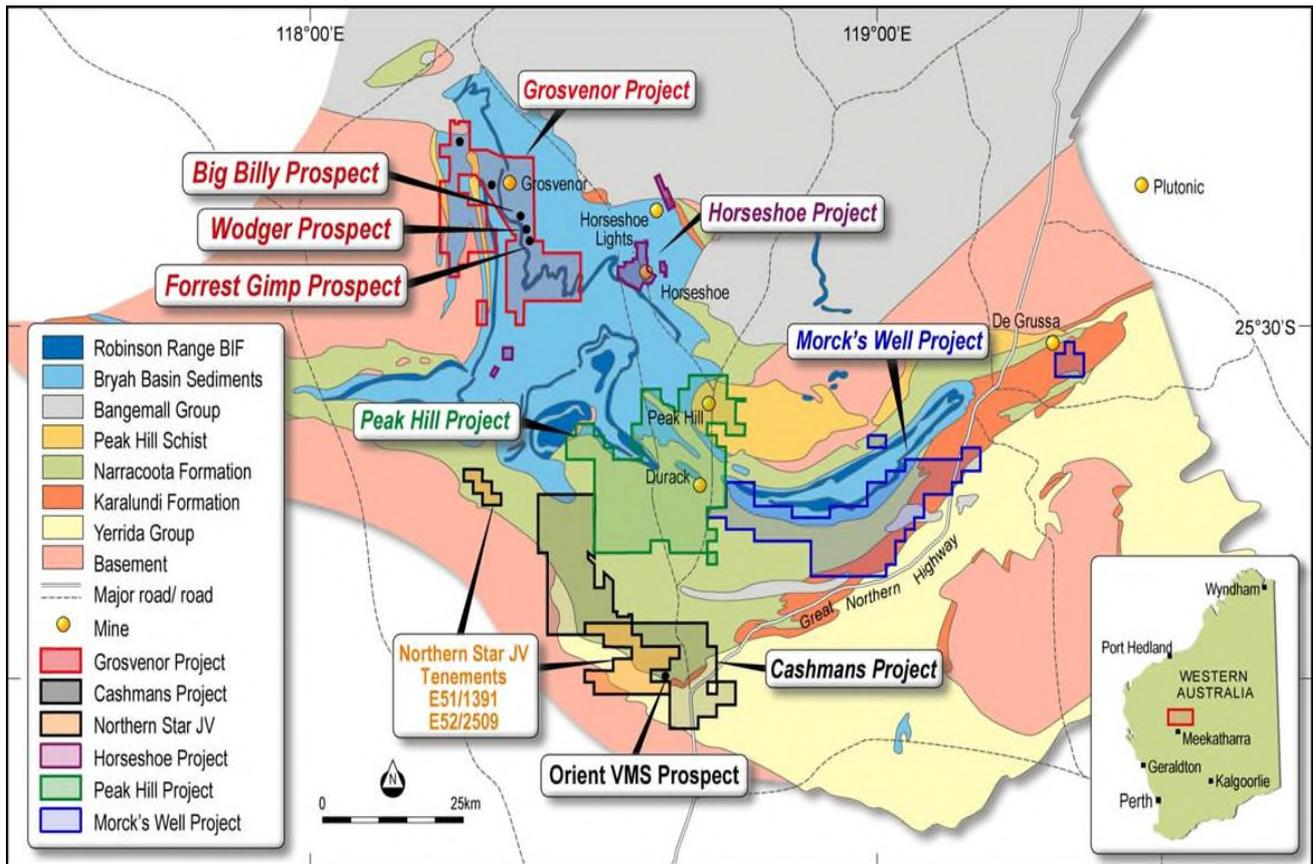

Figure 1: Project and prospect location
**Resource and Investment NL** (ASX: **RNI**) (**RNI** or the Company) is pleased to confirm drilling assay results from the Forrest Gimp copper-gold discovery (RNI 80%, Jackson Minerals Pty Ltd 20%) (Figure 1), which is part of the Company's Grosvenor Project in Western Australia's Bryah Basin.
The Forrest Gimp copper-gold deposit is located on the southern end of an identified regional copper-gold corridor that extends for more than 12km (Figure 1) and also includes the Wodger, Big Billy and Callies copper and base-metals prospects. The trend is defined by a regional antiformal fold axis and associated folding and faulting of the Narracoota Volcanic Formation, and its contact with metasediments, striking south from the Fortnum Wedge.